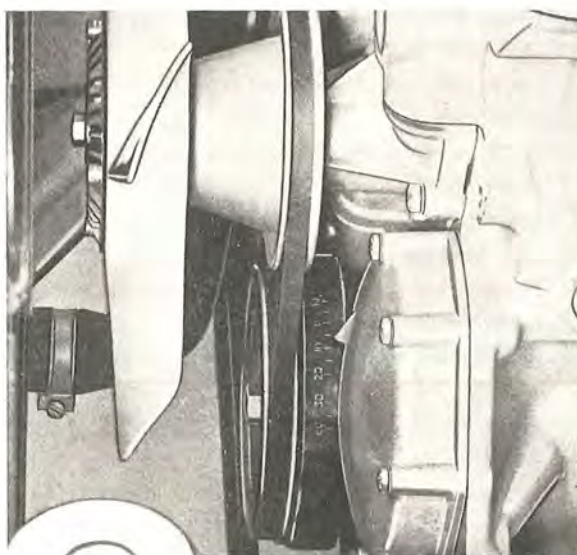

Fig. 3-59. Flywheel damper with graduation for ignition setting
1. Clean the flywheel damper so that the graduation marks are visible, see Fig. 3-59.